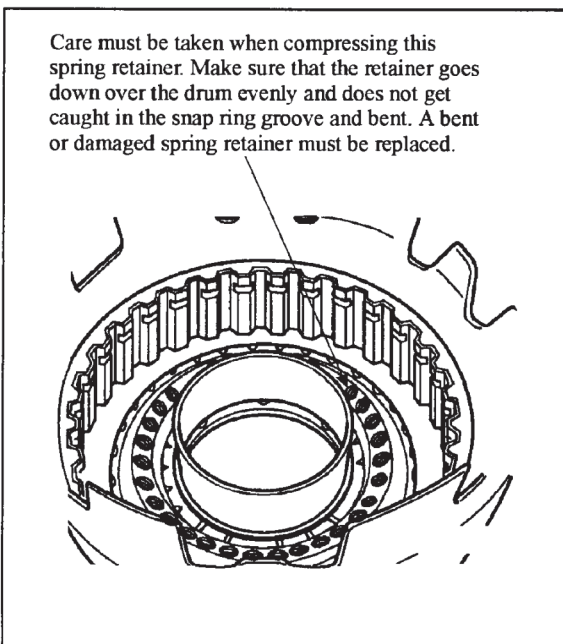

Figure 127
22. Place the drum in a press and carefully compress the spring far enough to install the piston retainer snap ring in the snap ring groove. Take care when compressing the retainer spring it is fragile and may be easily bent if not compressed evenly and carefully (See Figure 127).